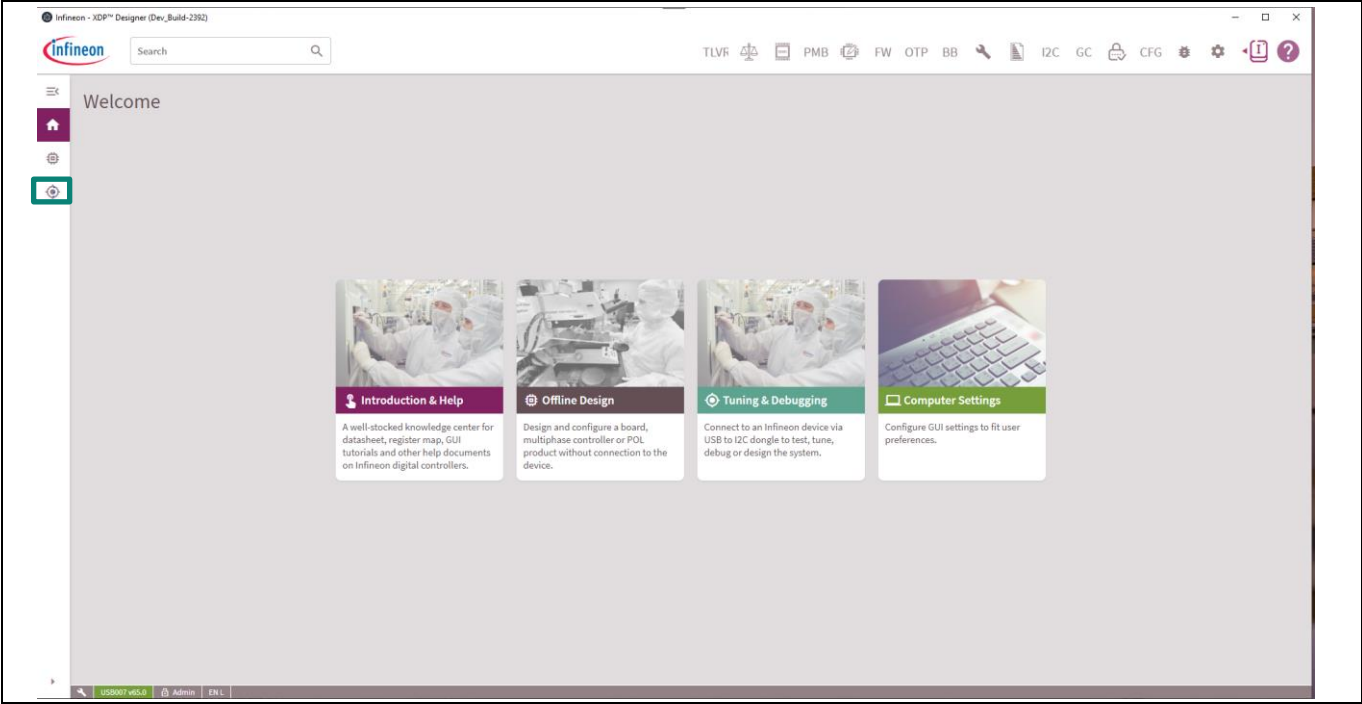
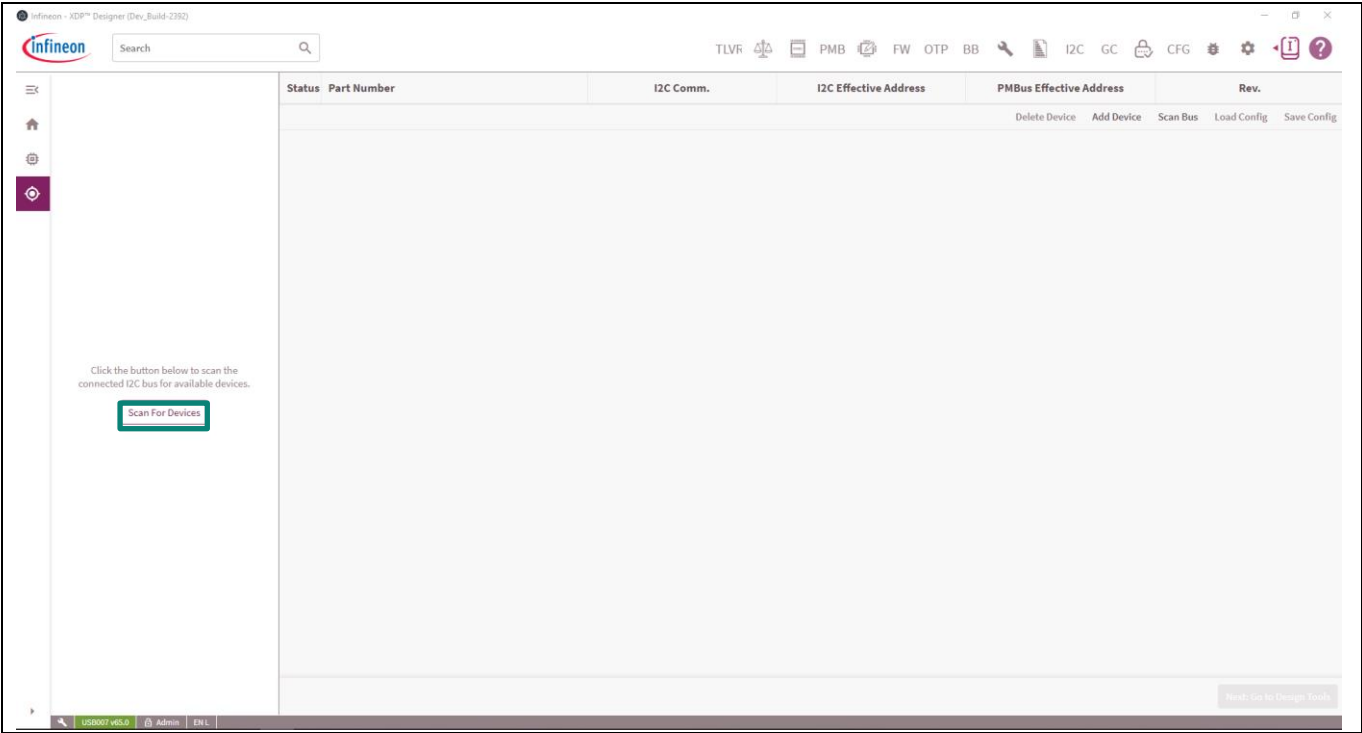

Figure 20 XDP710-002 detection
Figure 21 Scan For Devices to find XDP710-002
- Click the button highlighted in Figure 20 and then wait for a few seconds; the device should be detected by the GUI automatically. If the device is not detected on its own, then click **Scan For Devices**, as shown in Figure 21.